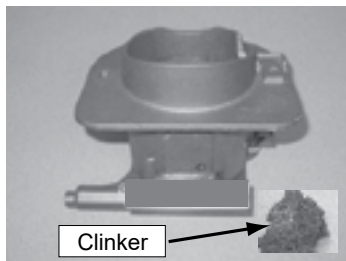

Figure 15.2 - Firepot with large clinker
- d. It may be necessary to use your firepot clean-out tool to chip away material that has built up on the sides of the firepot and to push out any clinkers (**Figure 15.2**).